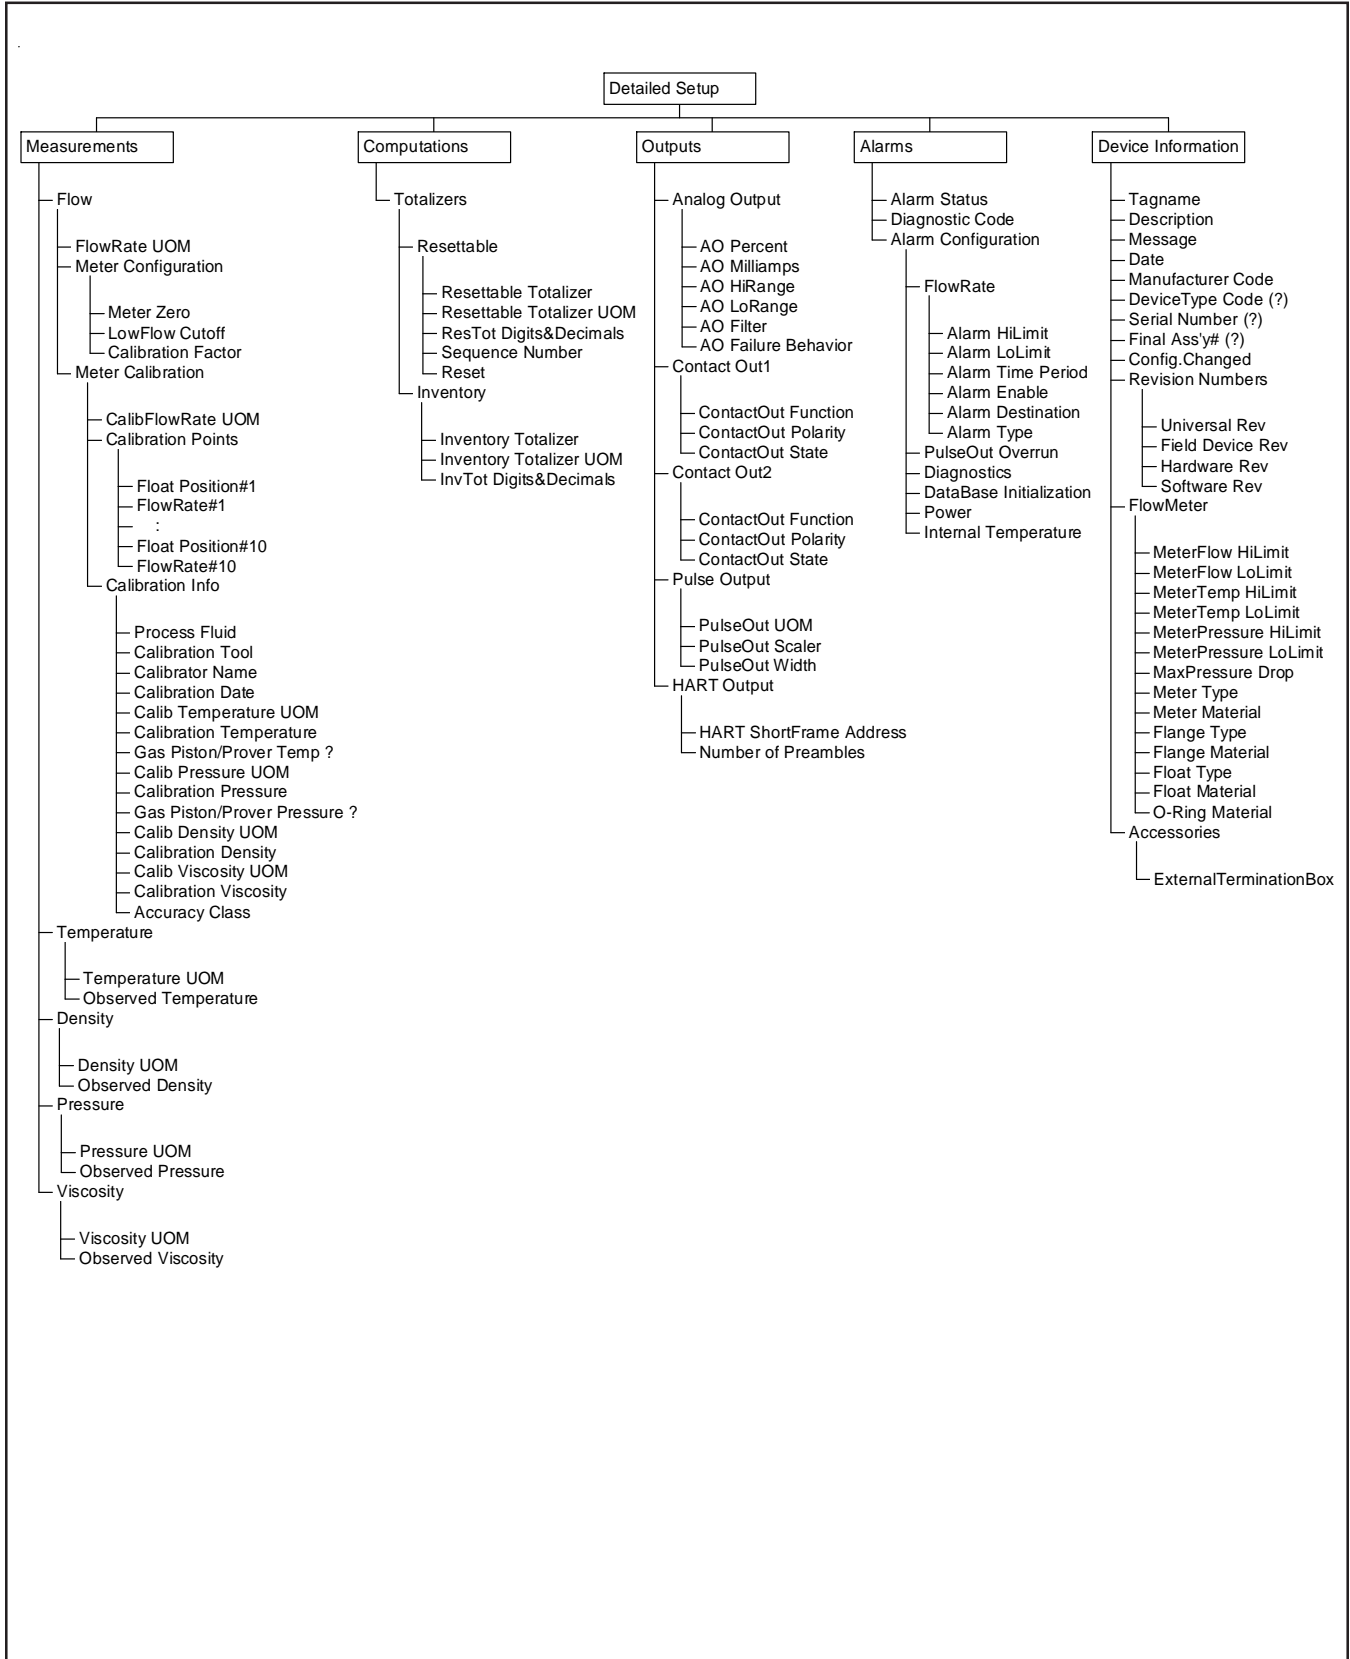

Figure 3-2 Model MT 3810 SMM Electronics Device Description Tree (Detailed Setup)
7. Under actual flow conditions, verify that the transmitter output matches the mechanical pointer position. If a discrepancy is noted, the HART communications channel can be used to verify or adjust the transmitter settings. The Emerson Model 275 hand held communicator provides a simple means to accomplish this check anywhere in the loop. Refer to Figure 3-2 for connection instructions.
9. Under actual flow conditions, verify that the transmitter output matches the mechanical pointer position and that the alarms and pulse outputs are working properly. If a discrepancy is noted, the HART communications channel can be used to verify or adjust the transmitter settings. The Emerson Model 275 hand held communicator provides a simple means to accomplish this check anywhere in the loop. Refer to Figure 3-2 for connection instructions.
10. Under actual flow conditions, verify that the transmitter output matches the mechanical pointer position. If a discrepancy is noted with the transmitter, the HART communications channel can be used to verify or adjust the transmitter settings. The Emerson Model 275 hand-held communicator provides a simple means to accomplish this check anywhere in the loop. Refer to Figure 3-2 for connection instructions.